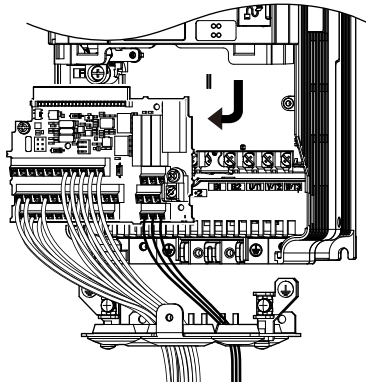

Figure 7.39 Remove the Terminal Board
3. Slide the terminal board as illustrated by the arrows in Figure 7.39 to remove it from the drive along with the bottom cover.